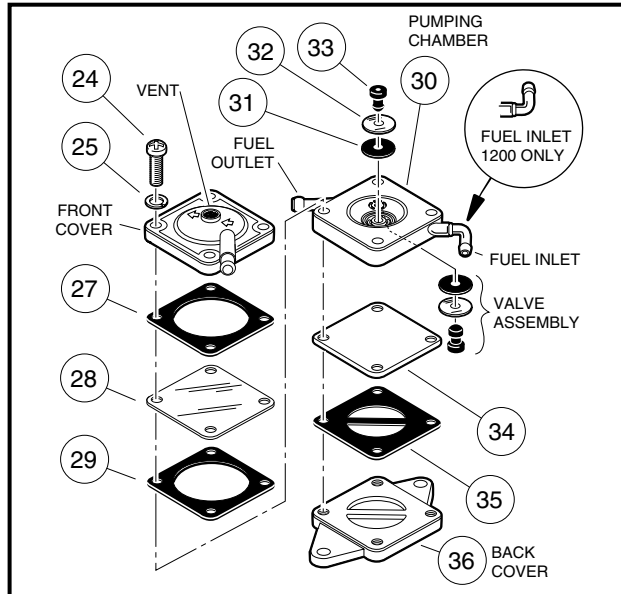
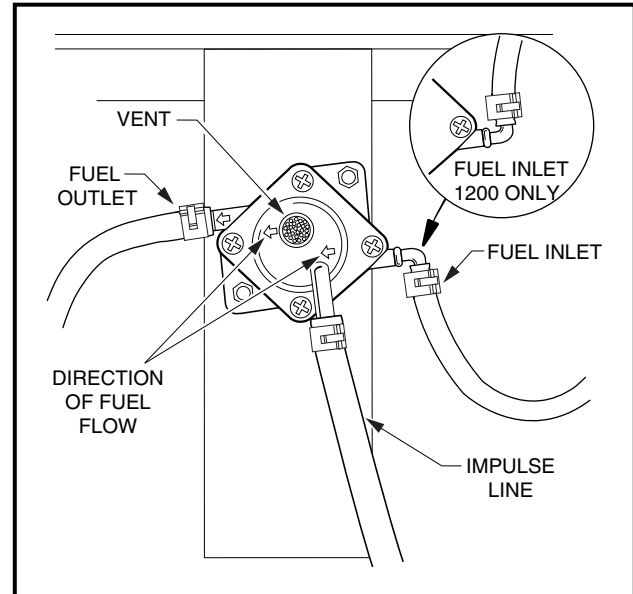

Figure 14-12 Pioneer 1200 and 1200 SE Fuel Pump
Figure 14-13 Pioneer 1200 and 1200 SE Pump Mount
1. Remove four screws (24) and lock washers (25) from front of the fuel pump (**Figure 14-12, Page 14-20**).
3. Note the orientations of the impulse gasket (27), the diaphragm (28), and the gasket (29), then remove them from the pump. **See following CAUTION.**
2. Inspect the valve assemblies (31, 32, and 33), gaskets and diaphragms for damage (**Figure 14-12, Page 14-20**).
3. If a valve assembly is damaged, the rubber retaining plug (33) and valve assembly must be replaced.
1. Install the fuel gasket (35) and diaphragm (34) on the back cover (36) (**Figure 14-12, Page 14-20**).
2. Install the valve assembly in the pumping chamber (30). **See following CAUTION.**
3. Install the pumping chamber (30) on top of the fuel diaphragm (34). Be sure the fuel inlet and the fuel outlet align with the arrows on the front of the front cover (**Figure 14-12, Page 14-20**).
4. Install the gasket (29), clear impulse diaphragm (28), and the paper impulse gasket (27) to the pumping chamber (30).
5. Install the front cover and then the lock washers (25) and four screws (24) on the assembly. Be sure the arrows on the front cover point from the fuel inlet to the fuel outlet (**Figure 14-13, Page 14-20**). Tighten the screws to 26 in-lb (3.0 N·m).